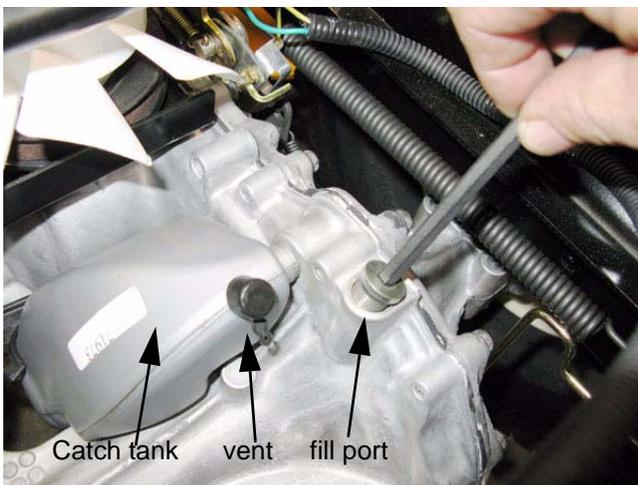

Figure 5.62
8. Remove the plug using a 1/4" allen wrench. See Figure 5.62.